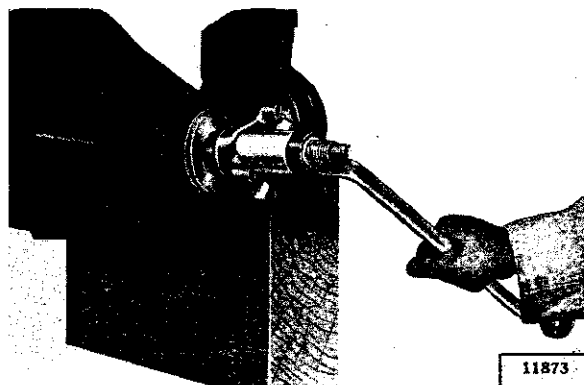

FIG. N-37—YOKE INSTALLING TOOL
- q. Install the yoke with Flange Installer W-162, as shown in Fig. N-37.